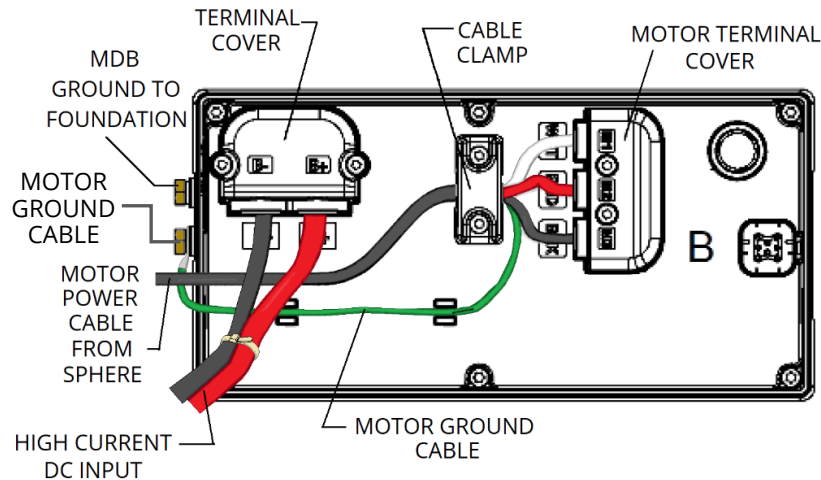

Figure 8: Components of a DC motor drive
- i. **REMOVE** motor terminal cover with T15 Torx® key (Fig. 8).
- ii. **REMOVE** cable clamp with T15 Torx® key (Fig. 8).